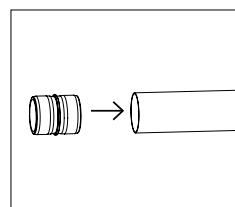

Figure 7a
- a. If using the poles in separate 2' sections, insert the plastic connector and end cap onto each end of the closet pole (**Figure 7a & 7c**).